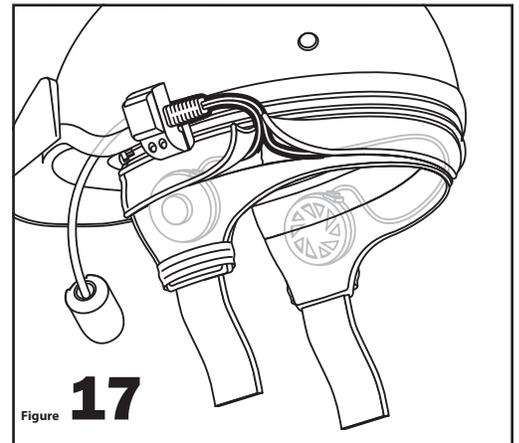

Figure 17
3. Insert the speakers into the pockets in the speaker skirt and slip the wires into the wire channel. **See Figure 17.**